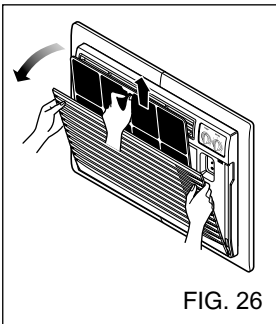

FIG. 26
- Pull the inlet grille forward and pull out the air filter. (FIG. 26)